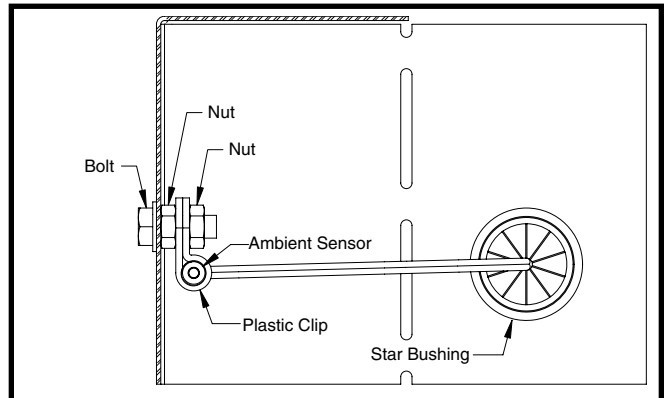

Figure 7. Ambient Sensor Mounting
2. Remove star bushing from 7/8" hole in corner panel of the unit. See Figure 7 (page 14).